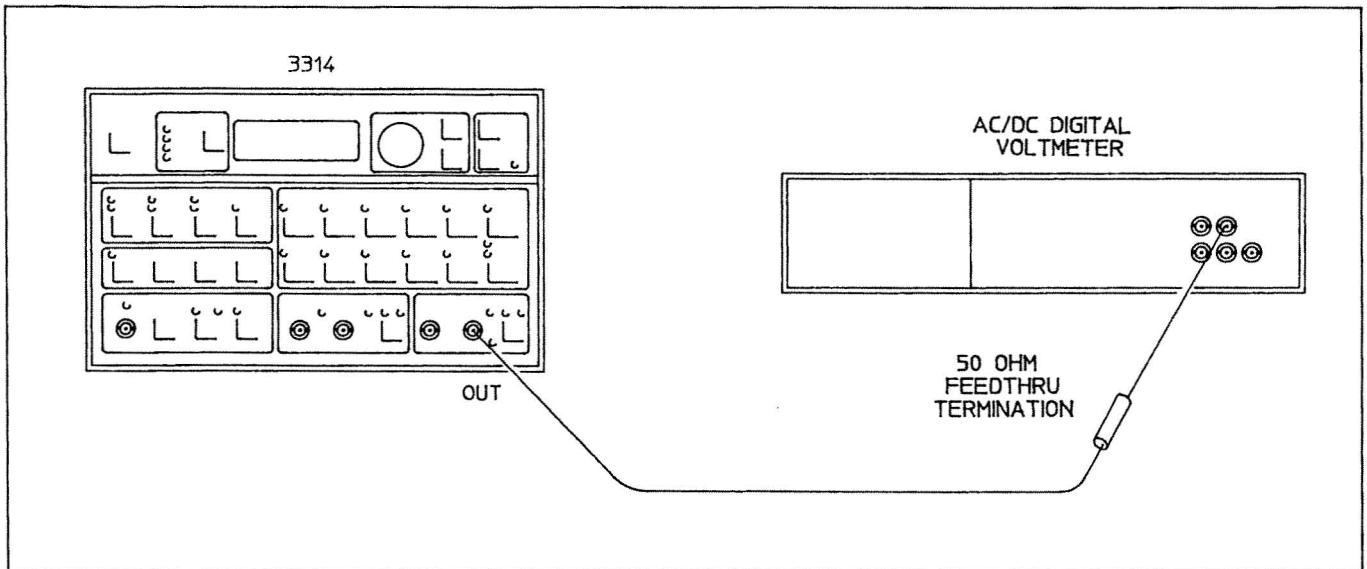

Figure 5-7. DC Offset Adjustment
- D. Connect the 3314A to the voltmeter as shown in Figure 5-7.